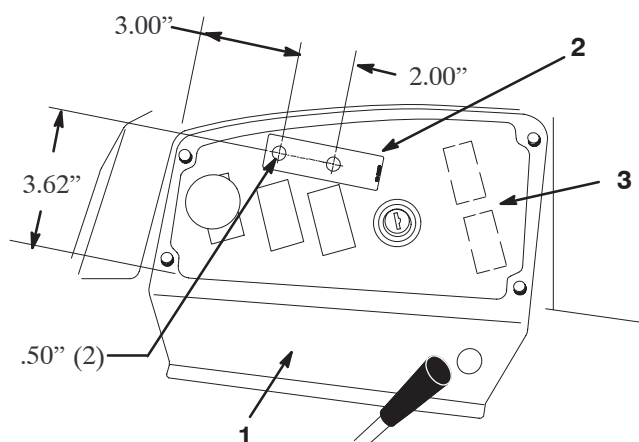

Figure 1
2. Using the dimensions shown in figure 1, locate, mark and drill two .50" dia. holes in the top of the control console.